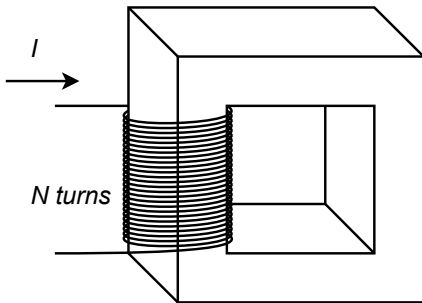

Figure 10.1
1. In the magnetic circuit shown in Figure 10.1, assume the cross section is 1 cm by 1 cm with a path length of 8 cm. The entire core is made of sheet steel and there are 100 turns on the winding. Determine the current to establish a flux of $8E-5$ webers.
3. Given the core shown in Figure 10.1, assume the cross section is 2 cm by 2 cm with a path length of 10 cm. The entire core is made of cast steel and there are 200 turns on the winding. Determine the current to establish a flux of $4E-4$ webers.
5. In the magnetic circuit shown in Figure 10.1, assume the cross section is 1 cm by 1 cm with a path length of 8 cm. The entire core is made of sheet steel. Determine the number of turns required to establish a flux of $8E-5$ webers given a current of 50 mA.
6. Given the core shown in Figure 10.1, assume the cross section is 2 cm by 2 cm with a path length of 10 cm. The entire core is made of sheet steel. Determine the number of turns required to establish a flux of $4E-4$ webers given a current of 200 mA.